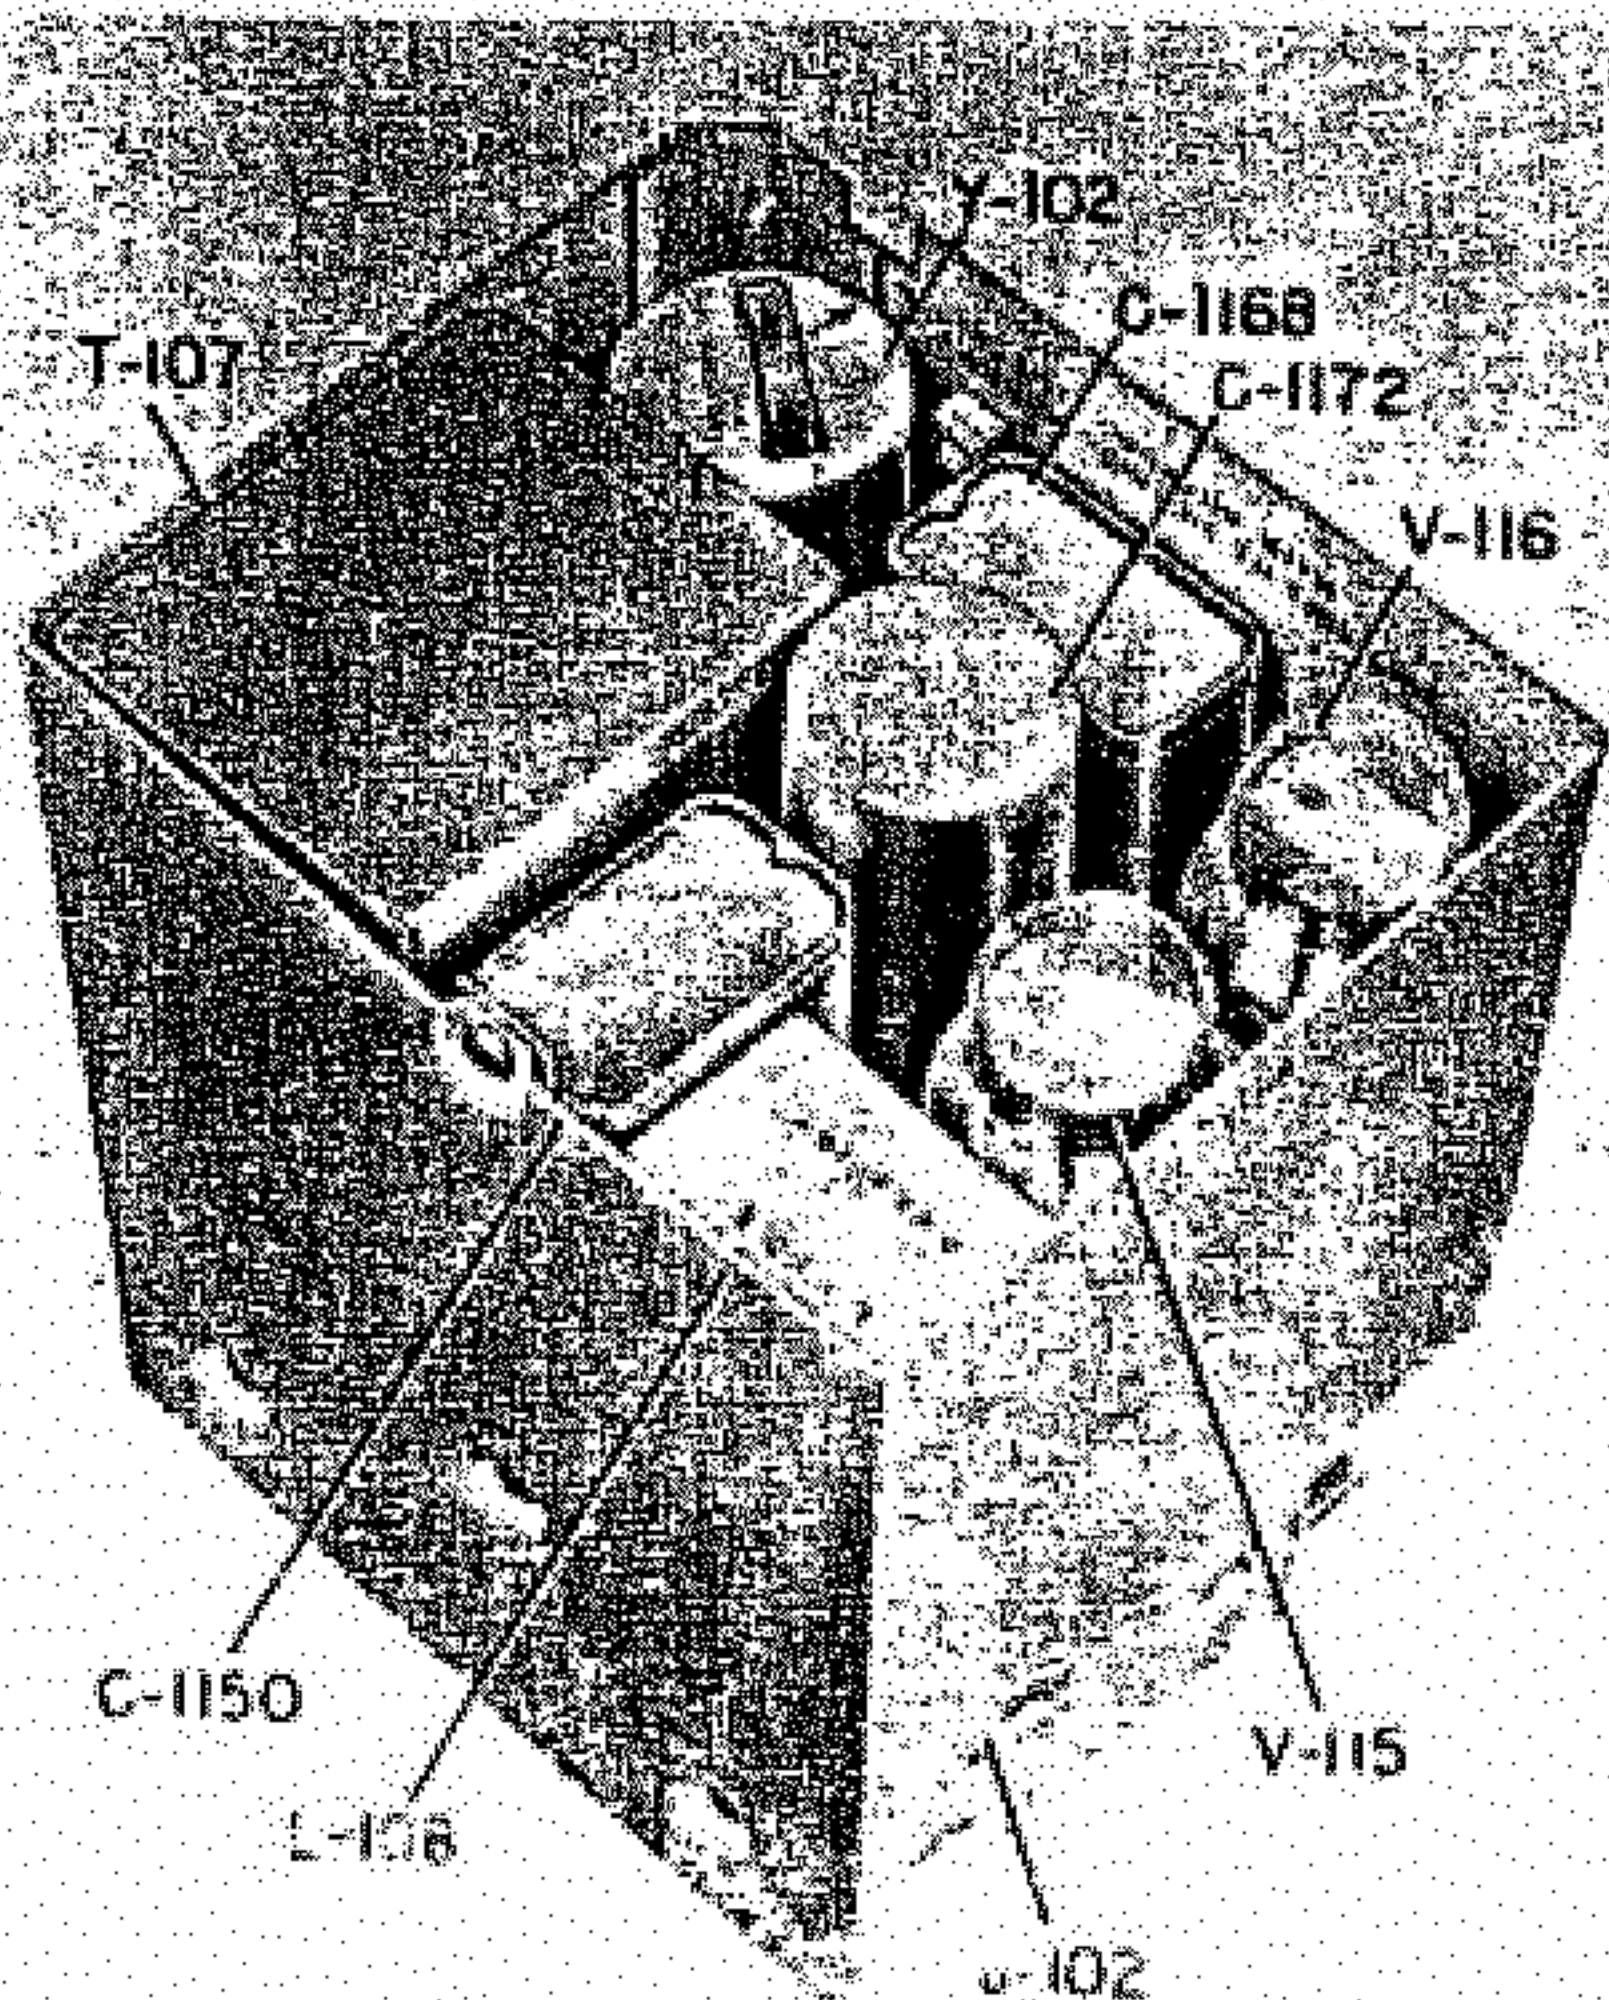

Figure 5-13. Vibrator Inverter Unit Y-101, Top View
(1) Operate Radio Compass AN/ARN-6 with function switch in "LOOP" position. Check for proper operation of the vibrator Y-102. (See figure 5-13.) If vibrator is operating, a buzzing sound will be heard.